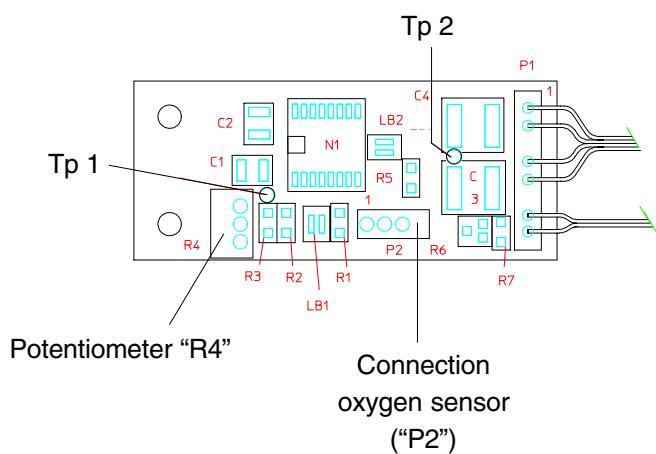

Fig. 18-3: PCB “OXS”, assembled, horizontal projection
- Disconnect the connector for the sensor from “P2” of circuit board “OXS” (see Fig. 18-3).
- Connect the connector for the sensor to “P2” of circuit board “OXS” (see Fig. 18-3).
- Set the signal to 1000 mV DC (\pm 5 mV) with potentiometer R4 (Fig. 18-3) of the corresponding circuit board “OXS”.